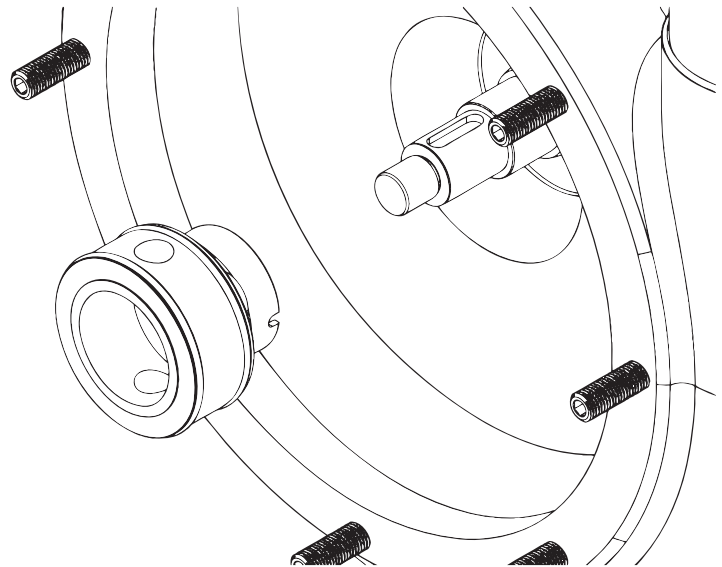

Figure 26
9. Remove the stationary seal once pushed out of its' bore. The double seal may also come out with the stationary seal if the pump has this option. See *figure 26*.